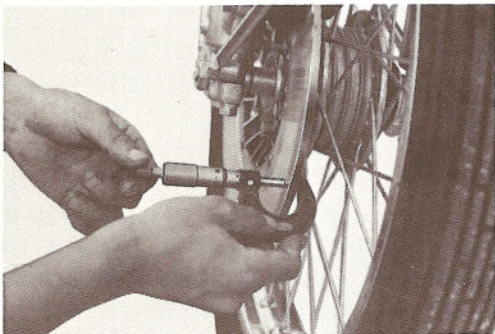

Fig. 4-5-2
- 2) Thickness of the brake disc should be not less than the limit. Measure its worn portion with a micrometer as shown in Fig. 4-5-2 and replace the brake disc if the thickness is less than the limit.